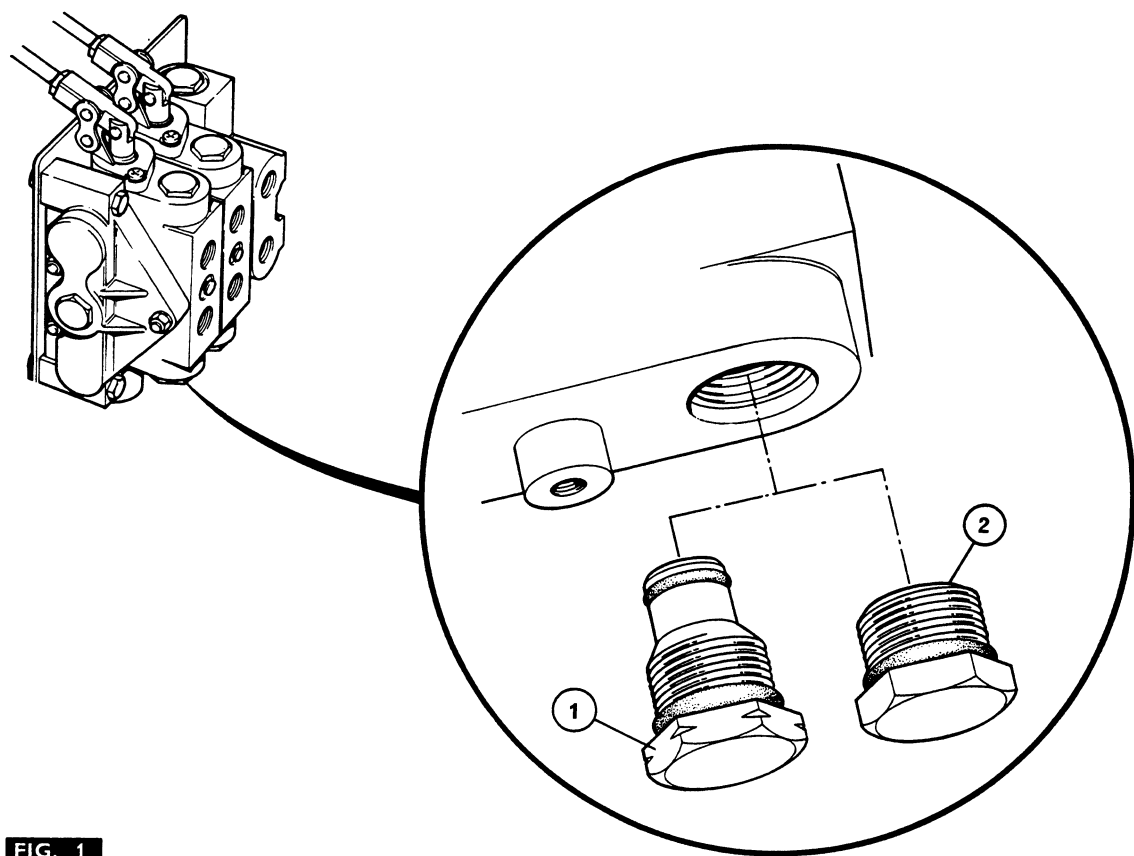

FIG. 1
- 1. Fig. 1. Remove the special  $\frac{7}{8}$ –14 UNF plug from the bottom of the spool valve.
- 2. From the spool valve kit, fit the standard  $\frac{7}{8}$ –14 UNF plug (2) (without a spigot) to the hole at the bottom of the spool valve.
- 1. Fig. 1. If necessary, remove the standard  $\frac{7}{8}$ –14 UNF plug (2) (without a spigot) from the bottom of the spool valve.
- 2. Fit the special  $\frac{7}{8}$ –14 UNF plug (1) (with a spigot and two ‘O’ rings) to the hole at the bottom of the spool valve.
- \*\*\* 3. If the outlet hose kit is to be fitted, if necessary, remove the  $\frac{3}{4}$ –16 UNF plug (9) from the lower outlet port on the spool valve.